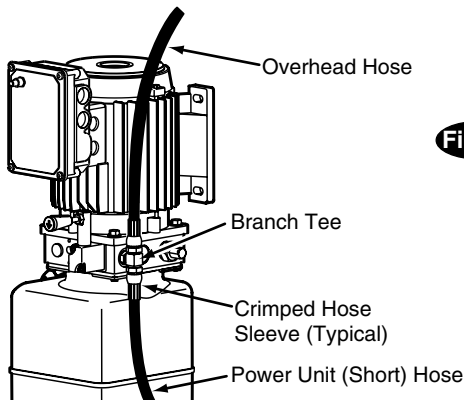

Fig. 8b
9. **Hoses:** Clean adapters and hose. Inspect all threads for damage and hose ends to be sure they are crimped, Fig. 8b.